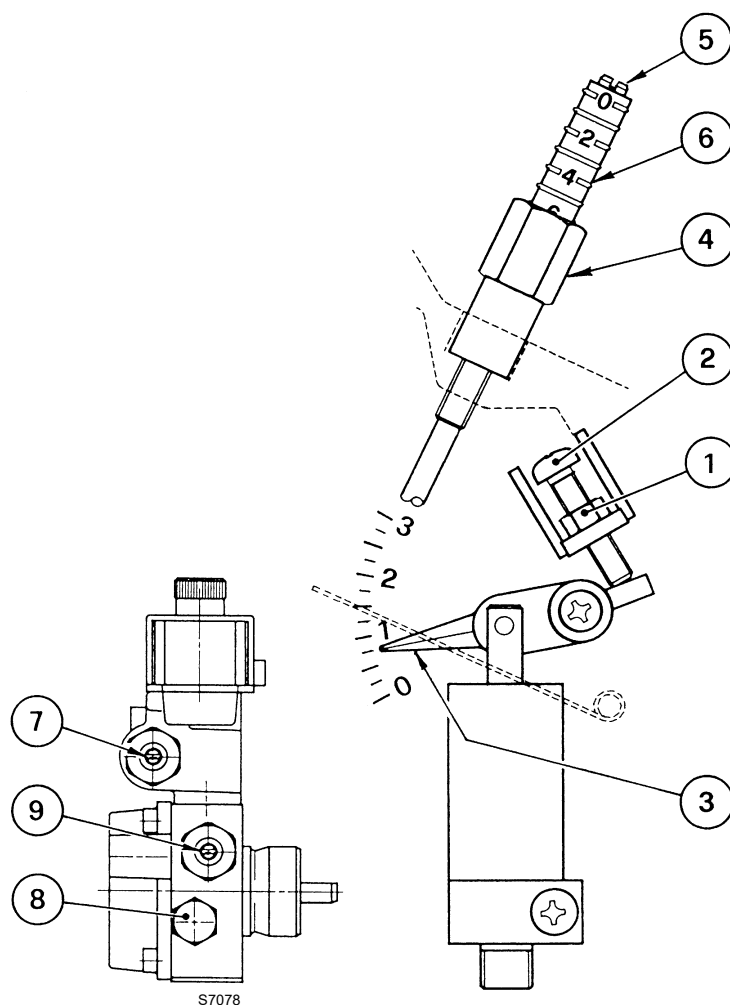

Fig. 10
- Loosen the nut 1)(Fig. 10), adjust the screw 2)(Fig. 10), and bring the indicator 3) to the required position.
- When the adjustment is completed screw in the nut 1)(Fig. 10).
If necessary recalibrate the pressure, or if you prefer change it, just turn the screw 7). The pressure gauge for checking pressure should be assembled in place of the plug 8)(Fig. 10).
- Loosen the nut 4)(Fig. 10), adjust the screw 5)(Fig. 10), and bring the indicator 6) to the required position.
- When the adjustment is completed screw in the nut 4)(Fig. 10) again.
If necessary recalibrate the pressure, or if you prefer change it, just turn the screw 9)(Fig. 10). The pressure gauge for checking pressure should be assembled in place of the plug 8)(Fig. 10).